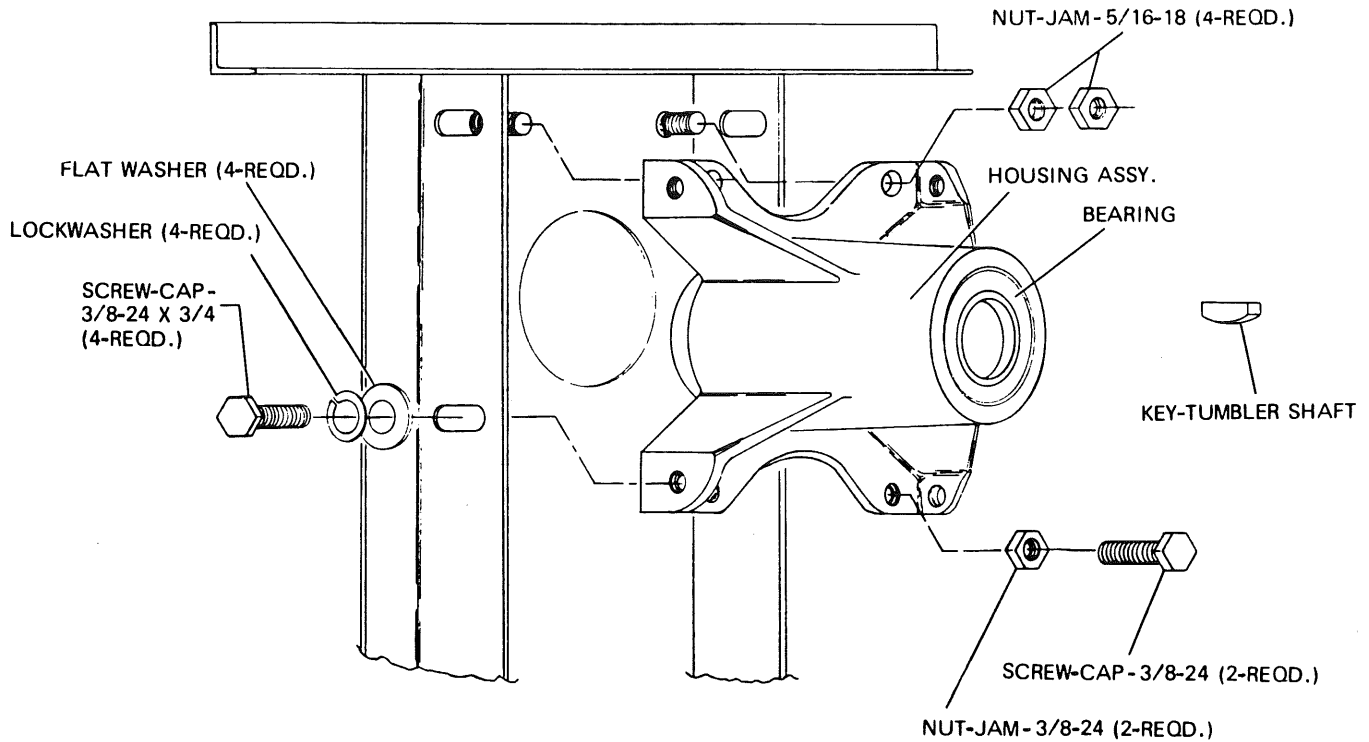

Figure 3-12. Tumbler Bearing Assembly
- To reassemble, the cylinder shaft must be guided into and through the tumbler bearing housing assembly. A dummy shaft will be required for insertion into the rear of this housing assembly. This will line up the bearing spacer with the bearings in the housing assembly. (Refer figure 3-12).
### 3-37 ADJUSTMENT OF CYLINDER WITH FRONT PANEL IN POSITION (Refer figure 3-12).
3-38 BEARING HOUSING BEARING REMOVAL (Refer figure 3-12)